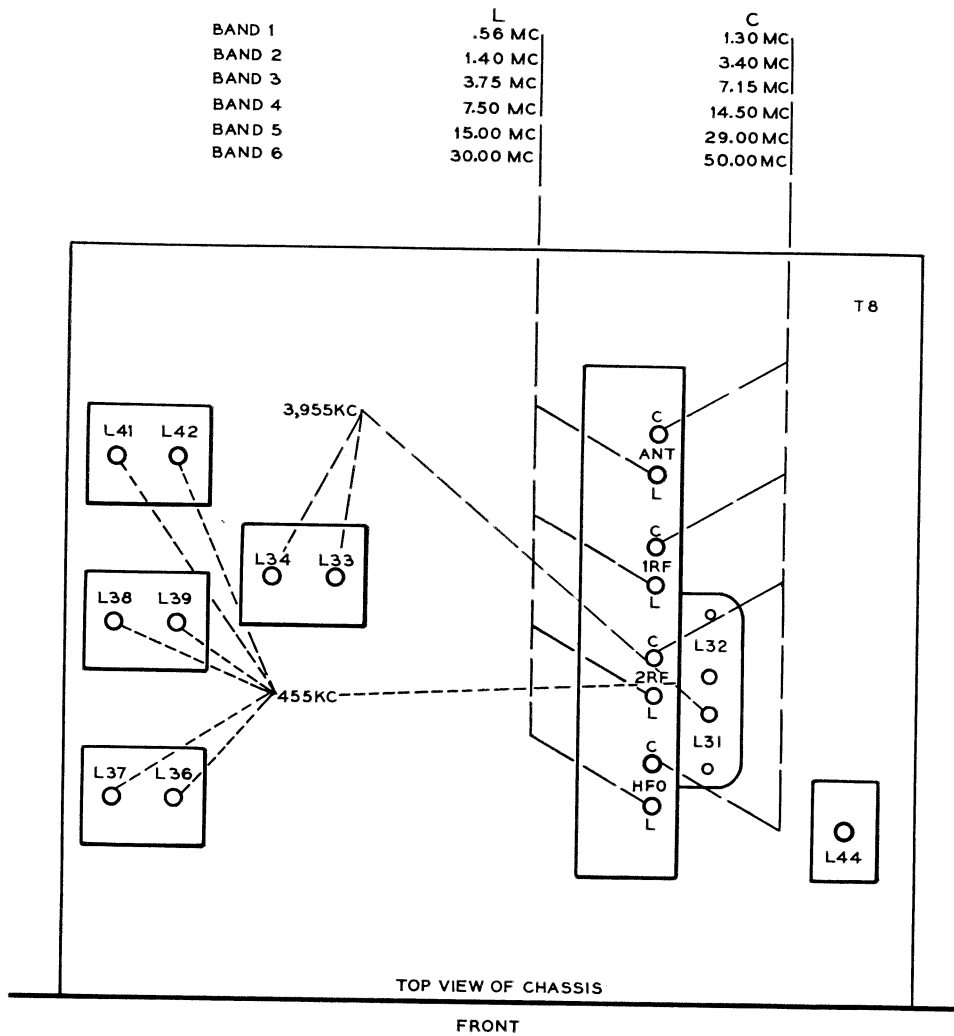

Figure 92. Radio receiver, all types, alinement chart.
- (1) The a-m signal generator (par. 78) should be capable of providing at least a 30-percent modulated r-f signal. In addition to 455 ke and 3,955 ke (the intermediate frequencies of the receiver), the frequency range required is from .56 to 50 mc, slightly less than the frequency range of the receiver. The alinement frequencies are shown in figure 92. If necessary, the second harmonic generally can be used when the signal generator does not provide the fundamental frequency. For example, a signal generator covering all frequencies from 80 ke to 30 mc could be used to aline the receiver at 50 mc (fig. 92), by use of the second harmonic of 25 mc. For best results, the signal generator should have its output impedance in series with 100 ohms when the r-f and vfo circuits are being alined. For i-f alinement, this value is not critical. The frequency calibration
The radio receiver does not require realinement after any tube replacement. However, this applies to vfo tube V4 only if the main dial calibration (par. 150) is within the calibration tolerance of $\frac{1}{4}$ of 1 percent of frequency. When V4 is replaced, check the main dial calibration, especially at the h-f end of each band. If realinement is necessary, realine the C adjustment for the HFO (fig. 92) for each frequency band (par. 98) whose main dial calibration is outside the calibration tolerance.
When one or more of the r-f tuner subassemblies for any one band of the receiver is replaced, the receiver r-f and vfo alinement procedure (par. 98) may be restricted to the realinement of the L and C adjustments (fig. 92) applicable to each r-f tuner subassembly involved. On band 1, the L and C ANT, 1RF, 2RF, and HFO (fig. 92) adjustments are made, respectively, with r-f tuner subassemblies L1, L8, L15, and L25; on band 2, respectively with L2, L9, L16, and L26; on band 3, respectively with L3, L10, L17, and L27; on band 4, respectively with L4, L11, L18, and L28; on band 5, respectively with L5, L12, L19,